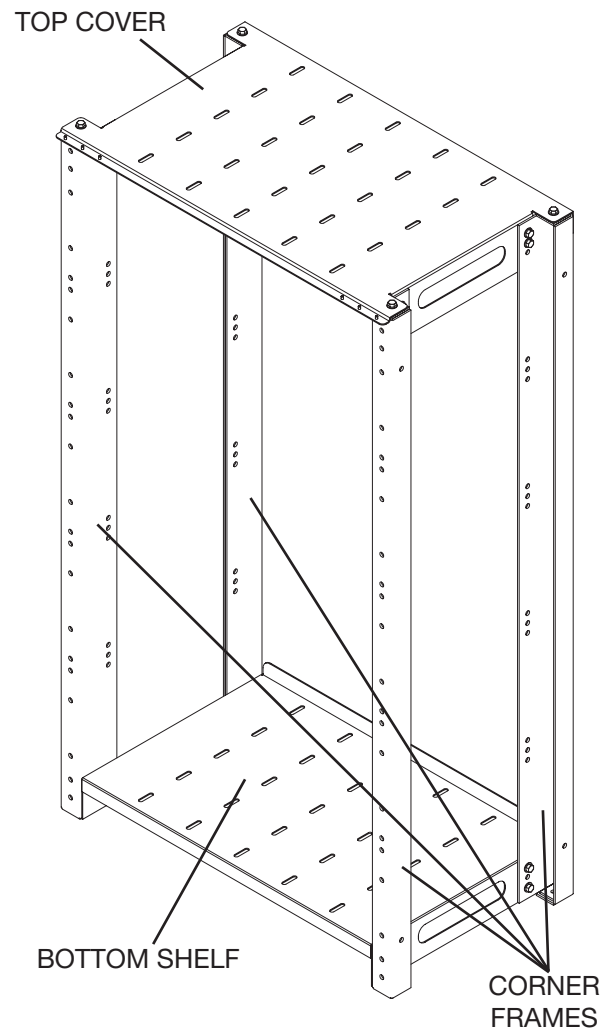

Figure 7.1
- Mark locations for anchor bolts. It may be helpful to assemble the corner frames, bottom shelf and top cover to use as a template to mark the locations of the anchor bolts. See Figure 7.1 and Sections 7.2, 7.3 and 7.4 for assembly instructions.